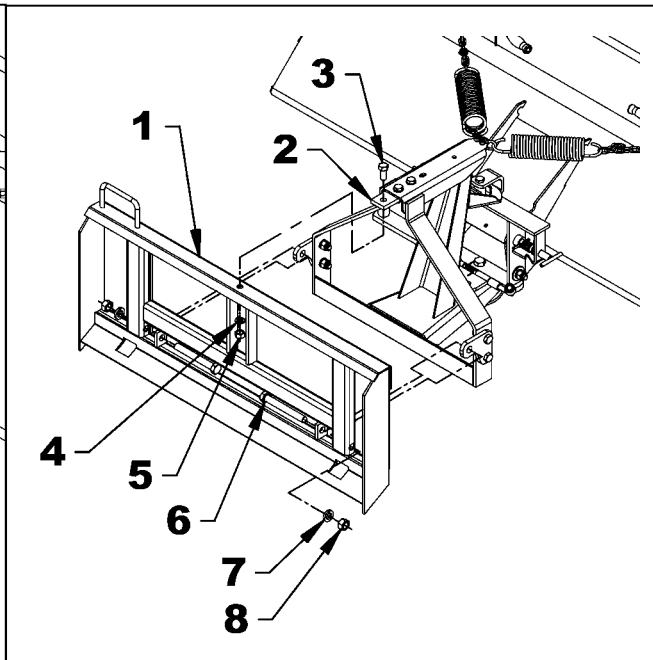

Figure 8C
3. **Figure 8C or 10C:** Attach the lower section of the broom back (item 2) to the hitch (item 1) with two 3/4"NC x 6" lg. hex. bolts (item 6), 3/4" lockwashers (item 7) and 3/4"NC hex. nuts (item 8).
4. **NOTE** The items 1, 6, 7, and 8 are provided with the Universal hitch kit #8153.
5. **Figure 8C or 10C:** Attach the upper section of the broom back (item 2) to the hitch (item 1) with the 5/8"NC x 1 1/2" lg. hex. bolt (item 3), 5/8" lockwasher (item 4) and 5/8"NC hex. nut (item 5).
**NOTE :** The items 1, 3, 4 and 5 are provided with the Universal hitch kit #8153.